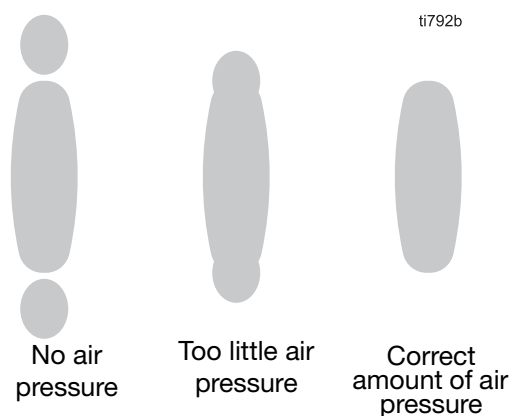

FIG. 20: Atomizing tails
- Slowly increase the inlet air pressure until the tails are completely atomized and pulled into the spray pattern. See FIG. 20.